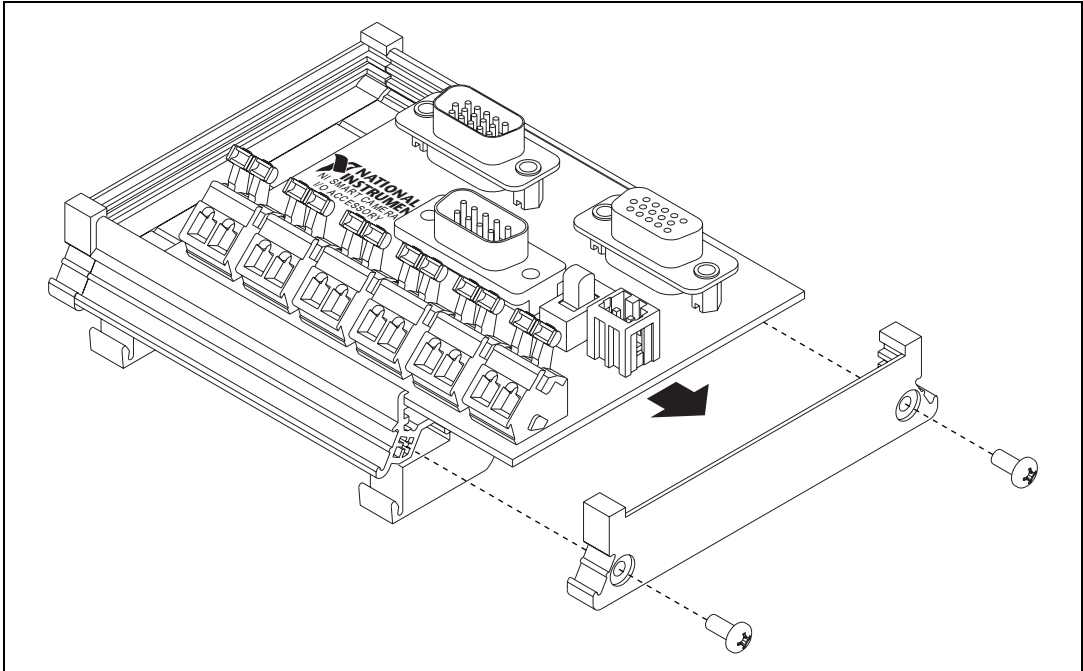

Figure 4. Removing the Circuit Board
3. Unscrew the two screws from a side panel with a Phillips head screwdriver and remove the side panel as shown in Figure 4.